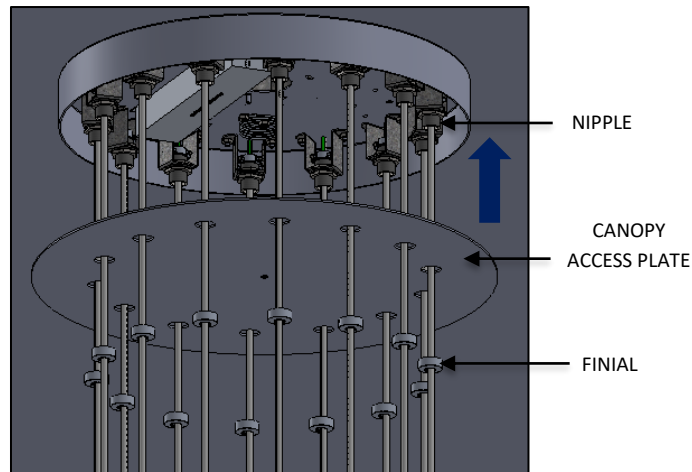

FIG. 20 - FINIAL INSTALLATION
10. Raise CANOPY ACCESS PLATE and secure to ceiling by threading the 7 FINIAL to NIPPLE (available in HANGING BRACKET) as shown below in FIG. 20.